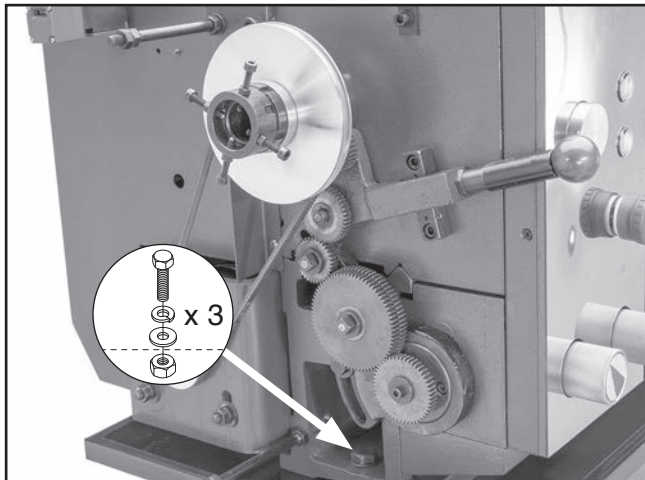

Figure 21. Lathe attached to cabinets.
16. Attach lathe to cabinets with (3) M12-1.75 x 35 hex bolts, 12mm flat washers, 12mm lock washers, and M12-1.75 hex nuts (see **Figure 21**). Hand-tighten screws for now.